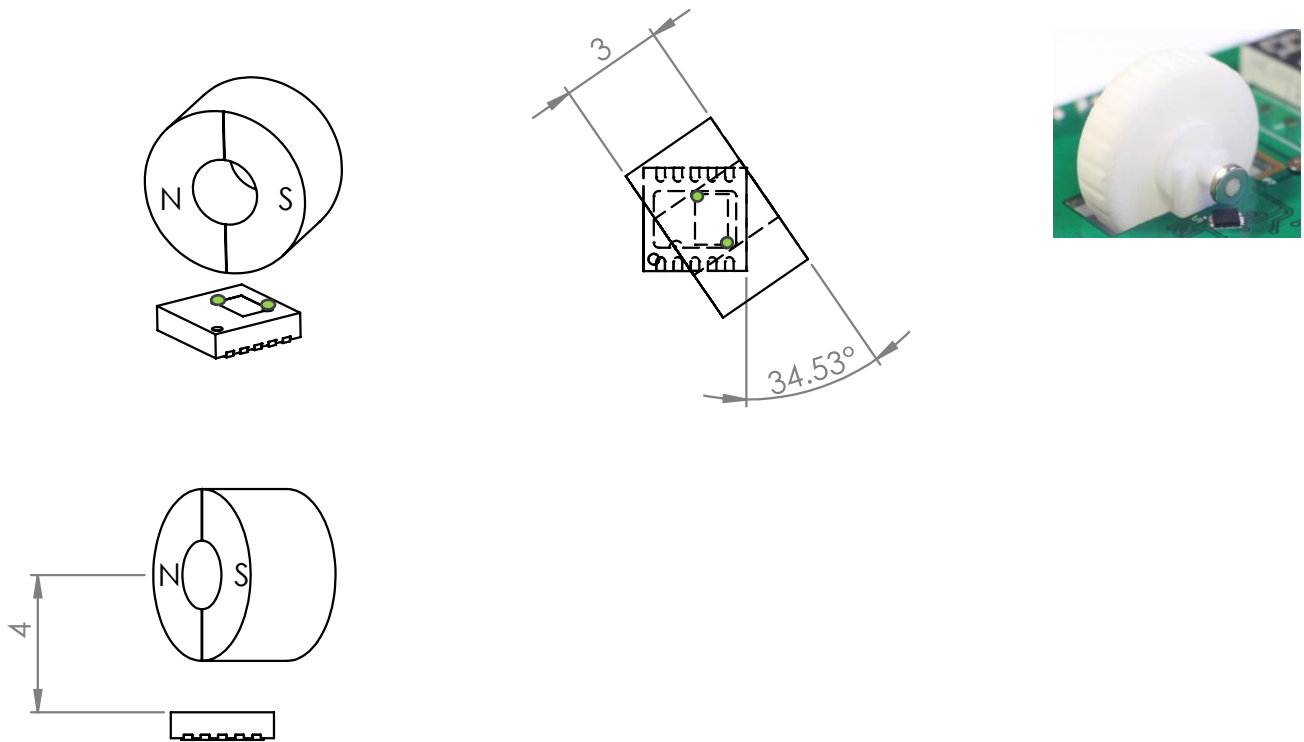
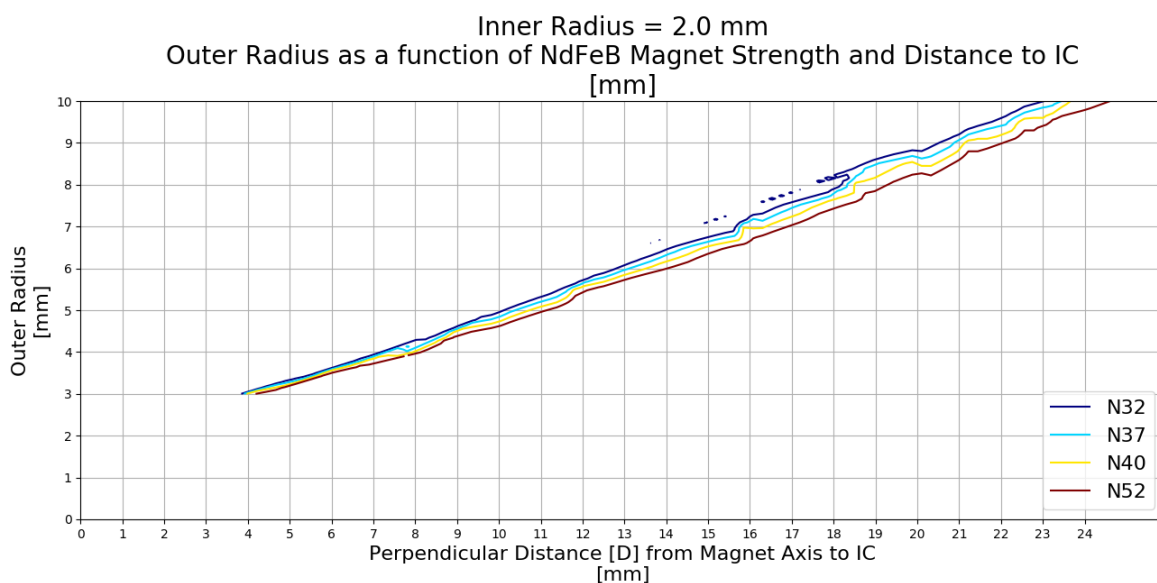
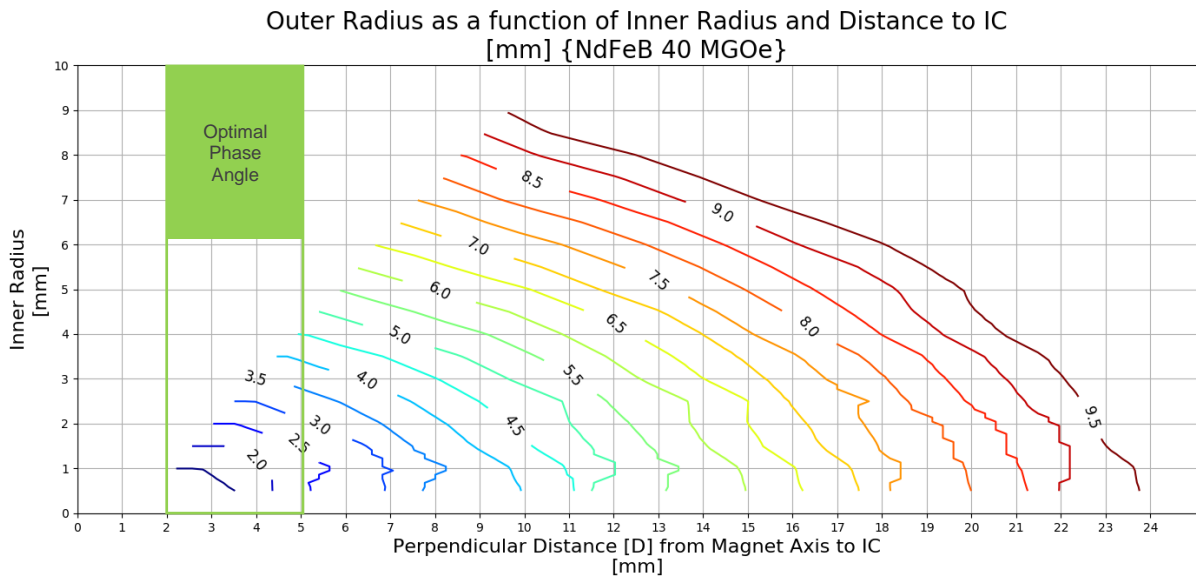
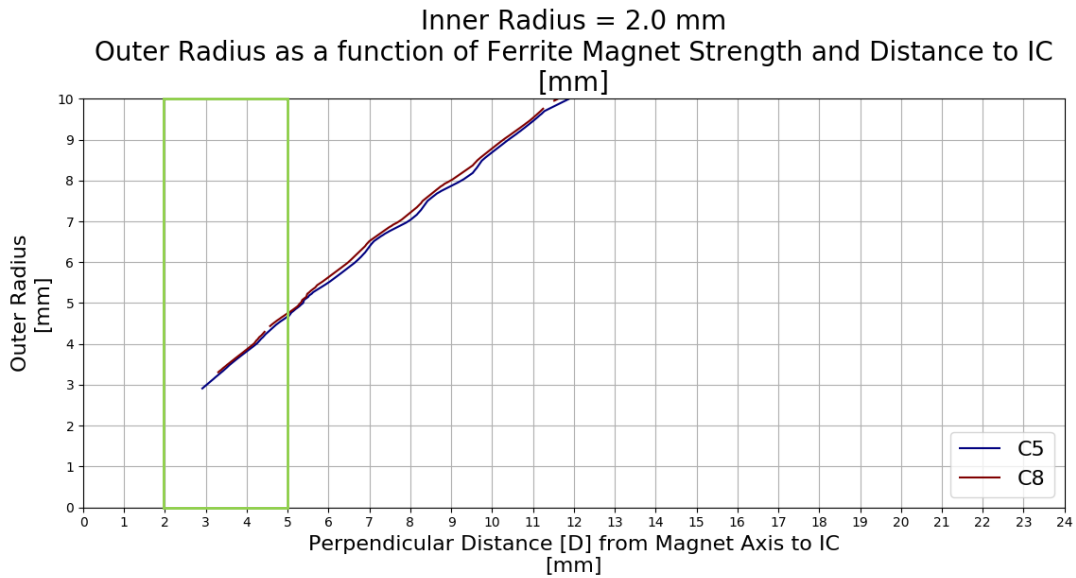

Figure 2.1 Magnet's position relative to IC with off-axis orientation
Figure 4-2: Comparison of Magnet strength (NdFeB)
Figure 4-3: NdFeB 40 MGOe Magnet Simulation
Figure 4-4: Comparison of Magnet strength (Ferrite)
The magnetic flux density (B) at the surface of the IC is dependent off the maximum energy product (BH_max), magnet geometry and the distance between the IC and the magnet axis (D in Figure 2.1). A simulation was done to calculate the effect of magnetic flux density on the design variables. Four different NdFeB magnets were used with a fixed inner radius of 2 mm, as seen in Figure 4-2.
Figure 2.3 shows the relationship between the outer radius, inner radius and perpendicular distance [D] from magnet axis to IC. These calculations were done at 100 mT with a 40 MGOe magnet. As seen from Figure 4-2 the magnet grading does not have a significant influence on the distance D therefore if a magnet with a different grading is chosen use a tolerance of $\pm 0.75\text{ mm}$ on the x axis of Figure 4-3.
The designer should choose two of the design variables according to the application or geometry restrictions and use Figure 4-3 to select the third variable. If the graph does not satisfy the requirements of the application, the designer must re-iterate the process to find a magnet that will fit the application. The phase angle should be between 20° and 50° to ensure a good signal from the hall plates. If the magnet axis is placed outside of this range the signal quality will not be optimal.
Use Figure 4-3 to locate these parameters. As seen on the graph the magnet should be placed ~4 mm away from the IC. This falls within the optimal phase angle range.
Use Figure 4-3 to determine what the outside radius should be. This point falls outside the optimal phase angle range. Move the IC 1 mm closer to the axis. On the N40 graph, the outside radius should be 4.5 mm.
Figure 4-4 compares two different strength ferrite magnets with a constant inner radius of 2 mm. It can be seen from this graph that because the magnets are a lot weaker than NdFeB magnets, the slope of this graph is greater than Figure 4-2.